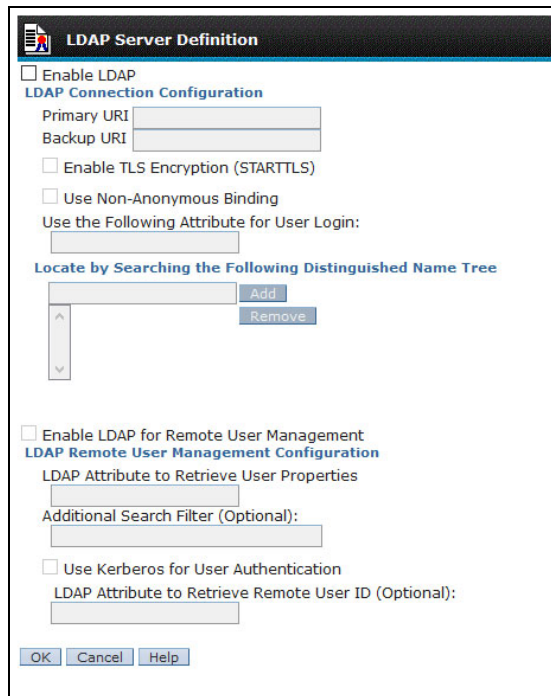

Figure 6-27 LDAP Server Definition window
2. The window that is shown in Figure 6-27 opens. Perform the following actions: